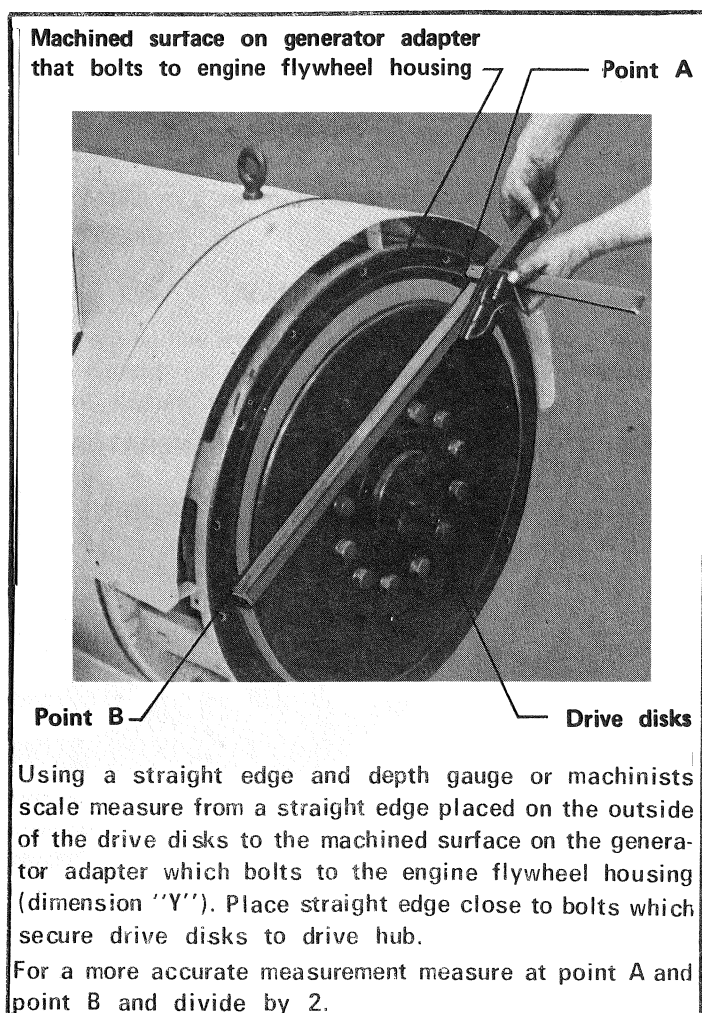
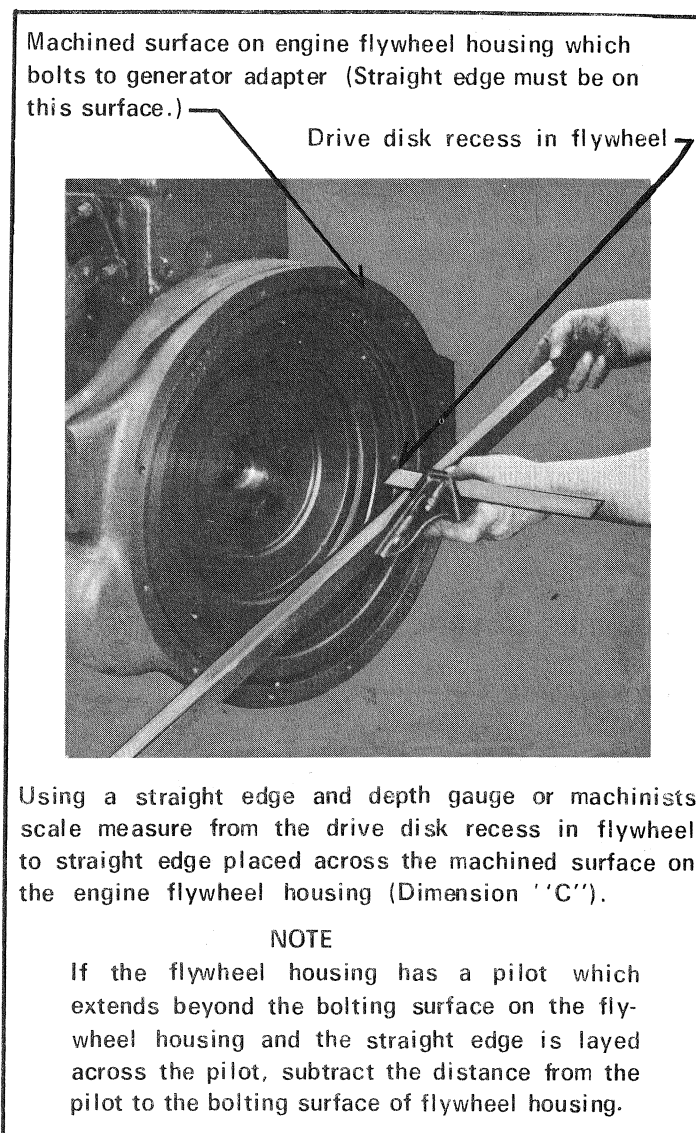

FIGURE 2-4 CHECKING SPACING FROM GENERATOR ADAPTER TO OUTSIDE OF DRIVE DISKS (DIM. "Y")
FIGURE 2-5 CHECKING SPACING FROM BOLTING SURFACE OF ENGINE FLYWHEEL HOUSING TO BOTTOM OF THE DRIVE DISK RECESS IN FLYWHEEL (DIM. "C")
- e. Before starting to assemble the generator to engine, measure the distance from the surface on the generator adapter that bolts to the engine flywheel housing (Dimension "Y", figure 2-4). Measure the distance from the machined surface on the engine flywheel housing to the bottom of the drive disk recess in the flywheel (Dimension "C", figure 2-5).